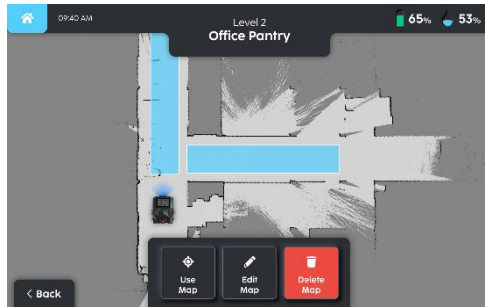

Fig. 3
3. Select the 'use map' option to change the map (Fig. 3).